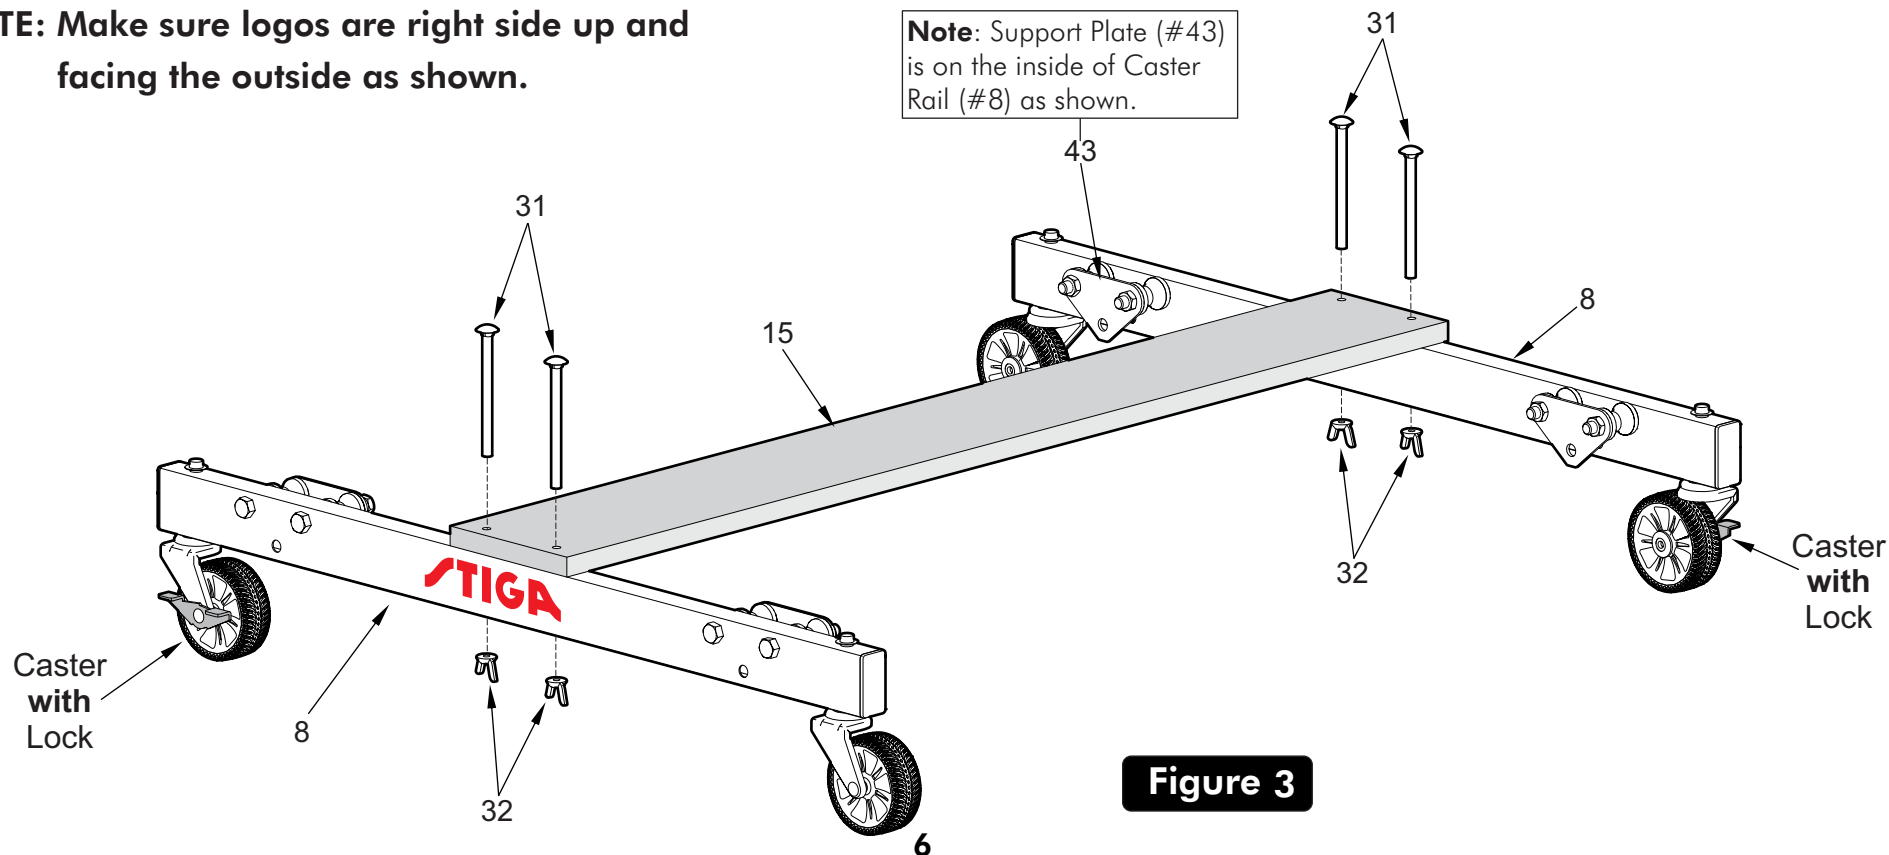

Figure 3
3. Attach Wood Bottom Board (#15) to Caster Beam Assemblies (#8) as shown in **Figure 3**. Turn Caster Beams as shown and attach board with four Carriage Bolts (#31) and four Wing Nuts (#32). Tighten Wing Nuts securely.